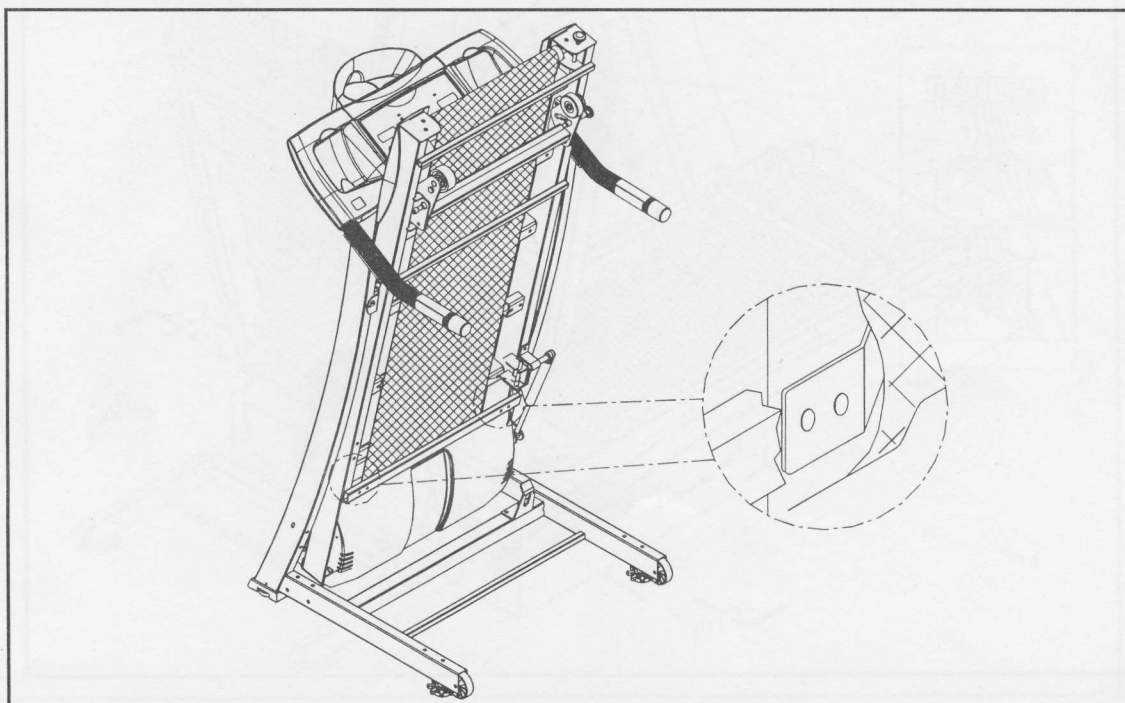

Fig.6
6. Please fold up your treadmill to its upright position, and make sure the running belt is inside the track of the two BELT ALIGNMENT GUIDES on the underside of the treadmill. (See Fig. 6)